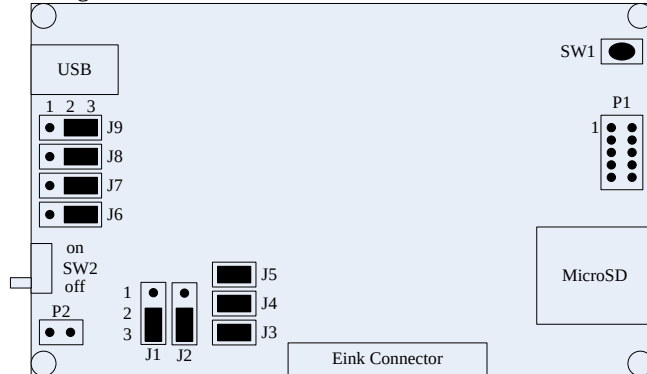
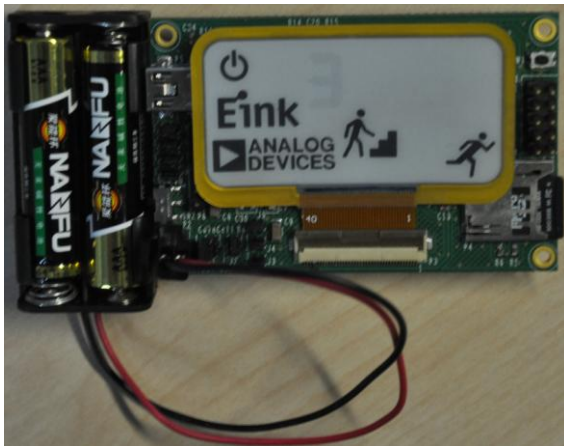

Figure 29. Correct Jumper Positions for Virtual Com
Figure 40. Data Logger with Portable Supply
6. Disconnect USB cable, configure the jumpers as shown in Figure 29 for virtual COM.
17. It is recommended to power development board through USB as described in Figure 29 when evaluating ADXL362 DB GUI. For data logger, it is recommended to use high capacity AAA batteries or lithium thin cell to power the development board, and thus it integrates seamlessly into portable applications as shown in Figure 40.
1. USB, all kinds of functions can be supported by USB supply. When using USB supply, please make sure the jumper J2 is at 2-3 position as shown in Figure 29 (There are notes on PCB board). There is a 3V LDO ADP3338 on the board which will switch 5V input to 3V for the following circuits.